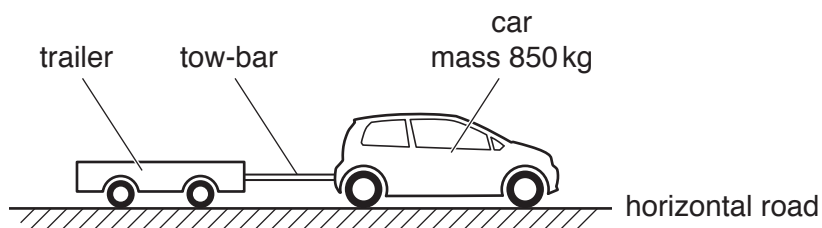

Fig. 2.1
- (b) A car of mass 850 kg tows a trailer in a straight line along a horizontal road, as shown in Fig. 2.1.